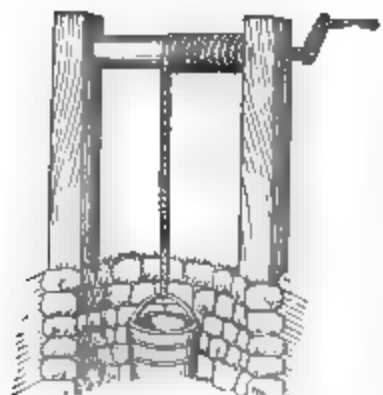

FIG. 21.—Windlass for a well.
27. Uses of the wheel and axle. A windlass used in drawing water from a well (Fig. 21) by means of a rope and bucket is an application of the principle of the wheel and axle. In the windlass, a crank takes the place of a wheel, and the length of the crank is the radius of the wheel.